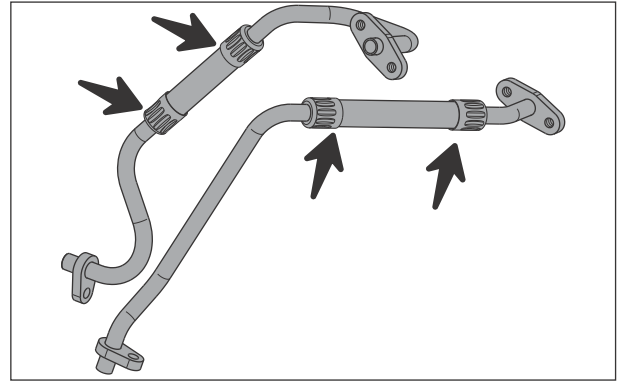

Fig. 2.60
- ▮ Visually inspect the cooler assembly inlet and outlet pipes for any crack, leakage, damage or deformation. (Fig. 2.60)